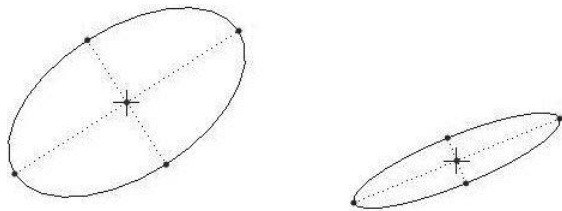

Figure 3-34 Ellipses
Step 29 : Use  and  to create two ellipses similar to the ones shown in Figure 3-34.